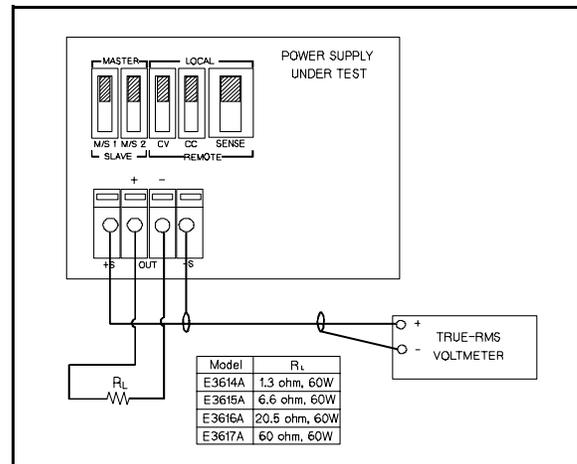

Figure A-6. CV PARD RMS Measurement Test Setup
- a. Connect the test equipment as shown in Figure A-6.